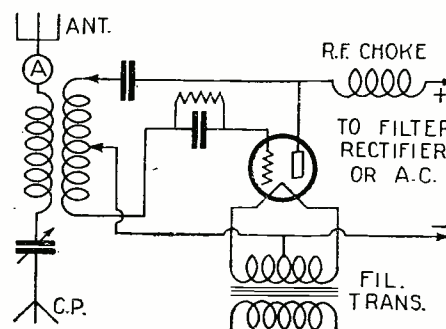

FIG. 1
**T**HE Hartley circuit, due to its simplicity and flexibility, can be readily adjusted to oscillate on practically any wavelength. This may seem strange to some, but on very short wavelengths, under certain conditions, it is sometimes difficult to prevent the circuit from oscillating. It is for these reasons and others that practically all amateurs have chosen the Hartley circuit for their transmitters. This circuit, but slightly modified for short-wave operation, is shown in Fig. 1.